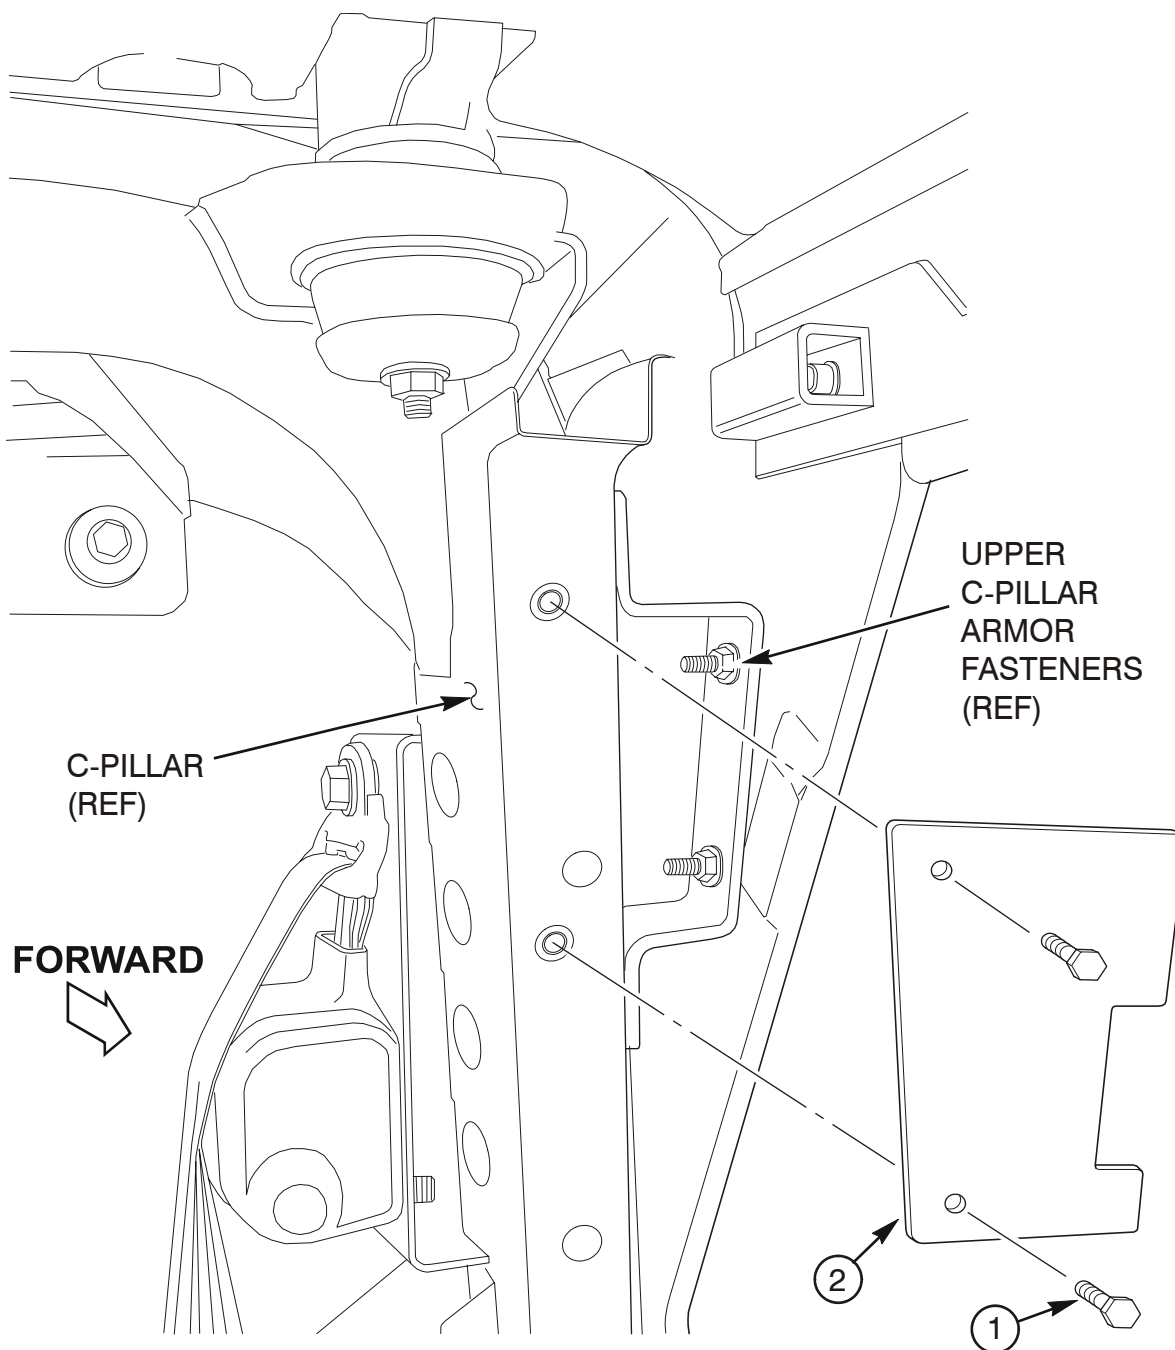

Figure 11.
16. Temporarily remove two screws (1) and C-pillar inner gap strip (2) as shown in figure 11 to gain better access to upper C-pillar fasteners. Retain screws (1) and C-pillar inner gap strip (2) for re-installation.
28. Apply sealing compound to two screws (1) retained from step A-16.
29. Re-install C-pillar inner gap strip (2) and two screws (1) retained from step A-16. See figure 11. Torque capscrews (1) to 6 lb-ft. (8 N·m).